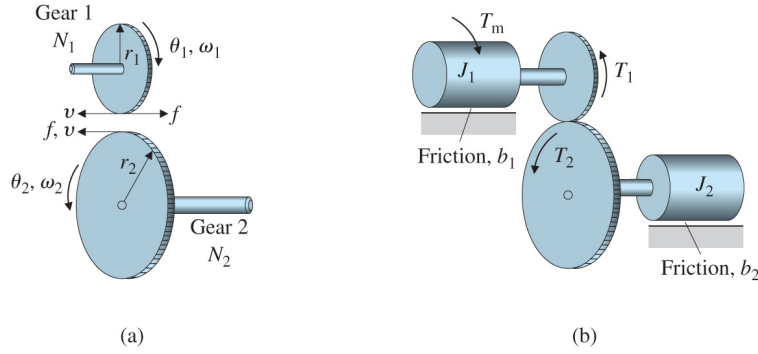

Fig. 2.36 (a) geometry definitions and forces on teeth (b) definitions for the dynamic analysis.
- (a) **Solution:** First, let's consider the problem for the case along the lines of the development in Section 2.3.3. That is, a system where the torque is applied by a motor on a gear that is simply accelerating an attached gear, like the picture in Fig. 2.36(b). This basically is assuming that the robot has no mass; but we'll come back to that. In order to multiply the torque by a factor of 2, the motor must have a gear that is half the size of the gear attached to the wheel, i.e., $n = 2$ in Eq. (2.78). For simplicity, let's also assume there is no damping on the motor shaft or the wheel shaft, so b_1 and b_2 are both $= 0$. If the wheel was not attached to the robot, Eq. (2.78) yields
24. Using Fig. 2.36, derive the transfer function between the applied torque, T_m , and the output, θ_2 , for the case when there is a spring attached to the output load. That is, there is a torque applied to the output load, T_s , where $T_s = -K_s \theta_2$